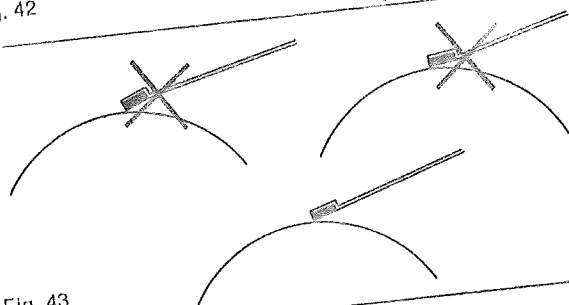
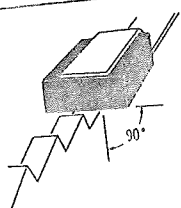
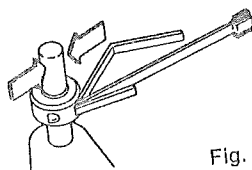

Fig. 43
Fig. 45
Fig. 46
2. The contact surfaces of the index and pawl jewel must be parallel to their fingers (see fig. 43). Before engaging verify that fingers are slightly curved to the axis of the index wheel (fig. 45). To adjust, grasp finger and stress limiter as close as possible to the collet and bend slightly. The height of the jewel in relation to the teeth of the index wheel must be in the center of each jewel. If necessary, correct by bending finger posts (fig. 46) with tool #22010.